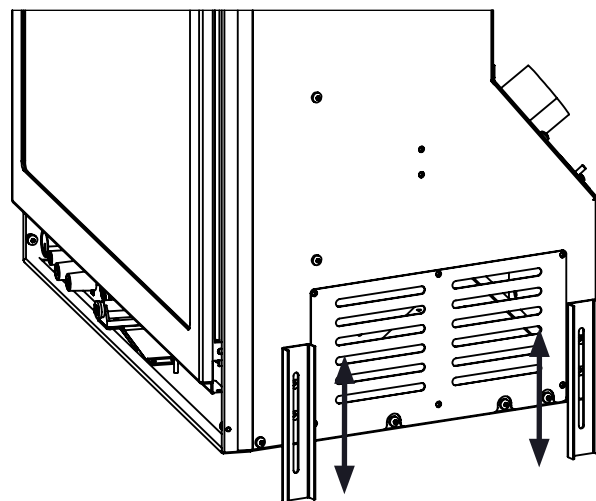

Figure 26: Levelling legs position.
8. Using a T20 driver, adjust the levelling legs to ensure the unit is level and high enough if a base shelf and/or riser is to be installed. There are two (2) levelling legs on each side (shown in Figure 26).